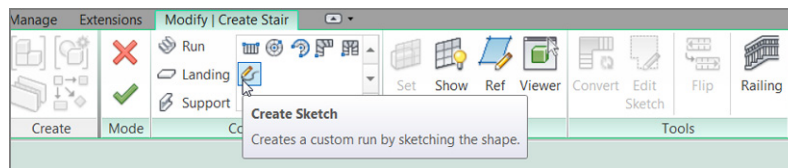

FIGURE 10.44: Click the Create Sketch button.
1. On the Modify | Create Stairs tab in Sketch Mode, click the Create Sketch button, as shown in Figure 10.44.